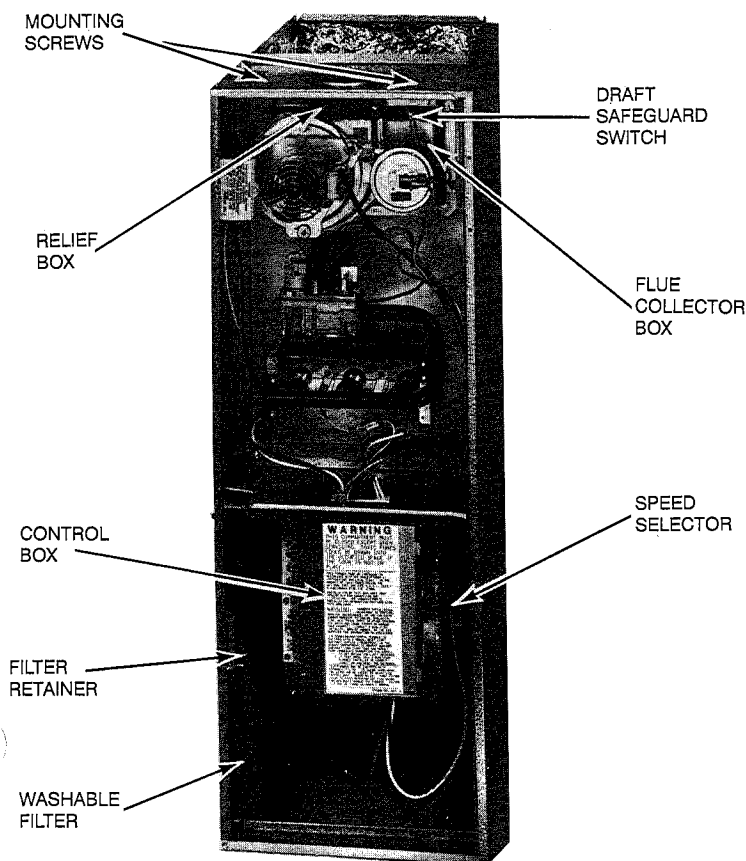

Fig. 6—Model 58PAV Upflow
Each furnace requires one or two filters which are installed in the blower compartment. See Fig. 6.
- b. Release filter retainer from clip at front of furnace casing. See Fig. 6. For side return, clips may be used on either (or both) sides of the furnace.
4. Remove electrical leads from numbered side of Molex speed selector. See Figs. 6 and 7. Note location of wires for reassembly.
4. Remove two screws that secure relief box. See Fig. 6 or 7.